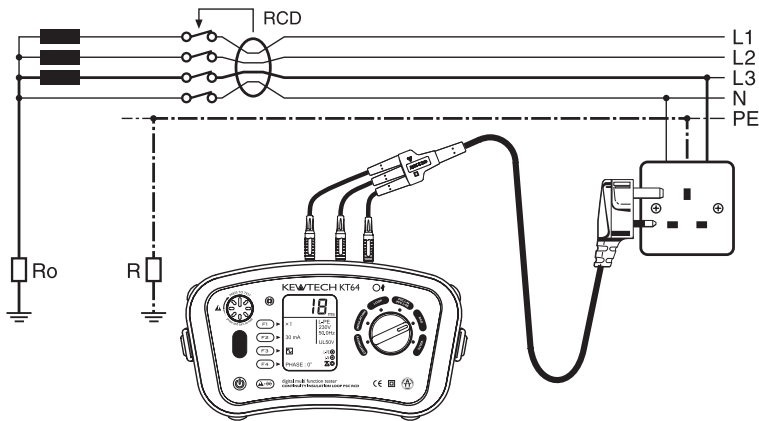

Fig. 31
2. Connect the test leads to the circuit to be tested. (Fig.31, 32)